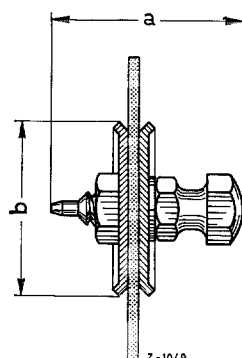

Fig. 07-0/10 a
- a) The length of the pump diaphragm bolt is measured from the dome against which the pump arm rests to the tip of the pin actuating the ball valve in the accelerating pump (Fig. 07-0/10 a).